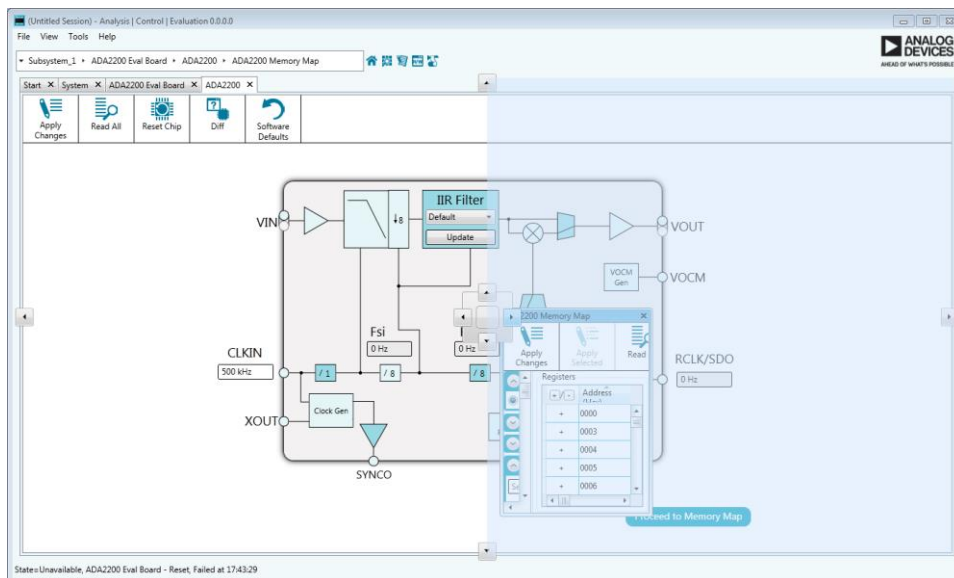

Figure 2-8: Moving Tabs
3. Drag the tab to the arrow associated with the new location for the tab and release the mouse. For example to place a view to the right of the other tabs, drag the selected tab over the right arrow in the centre of the other tab and release the mouse, Figure 2-8.